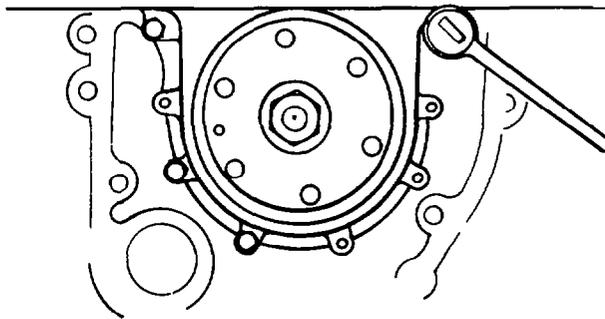

Fig. 53 — Removing Rear Main Seal Housing
- u. Remove the bolts from the main bearing caps in turn, then remove the caps; remove the rear main seal housing (see fig. 53).